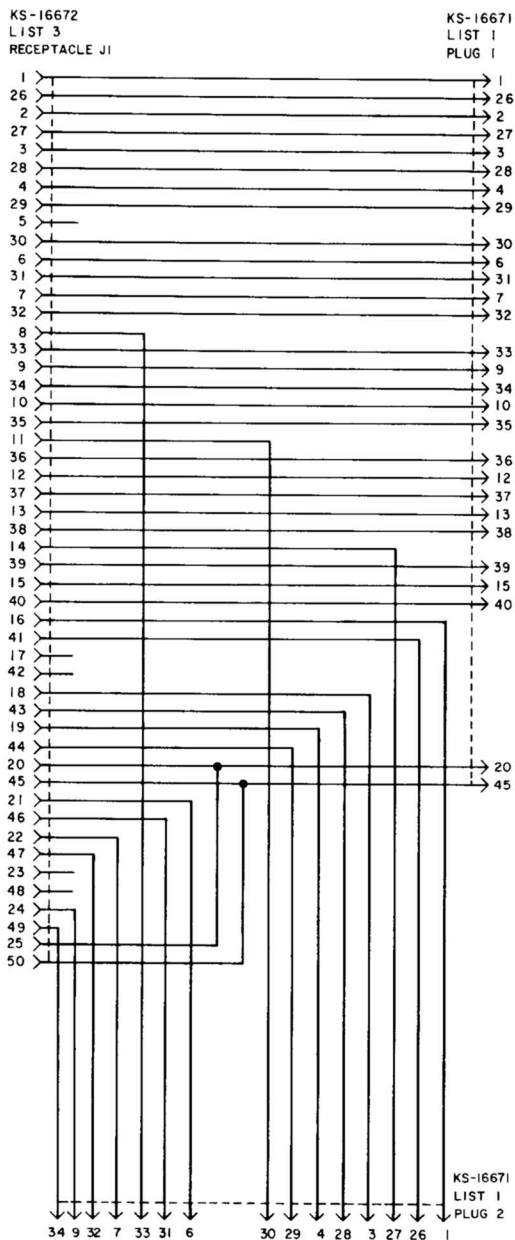

Fig. 21—KS-19252, List 5 3-Way Bridging Adapter Schematic
deep-hood plugs. The plugs and/or receptacles are wired standard point-to-point (except List 5, Fig. 21) at the factory and cannot be changed. (Refer to Table B.)
- The KS-19252 L5-type adapter (Fig. 21) is used in multiple installations of 2025 data